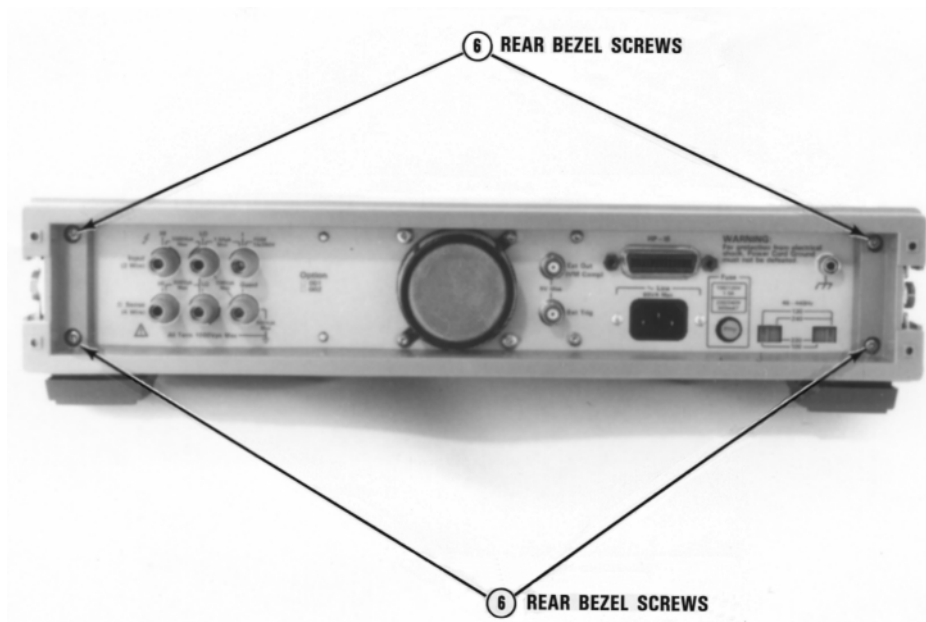

Figure 38. 3458 Rear view
8. Refer to Figure 38. Turn the instrument so its back faces you.
5. Refer to Figure 38. Turn the instrument so its back faces you.